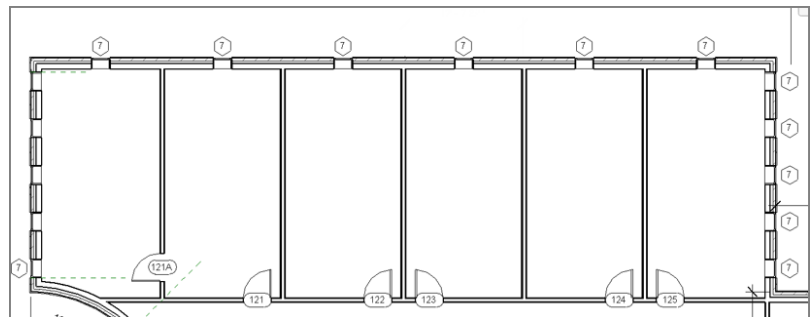

FIGURE 5.36: Adding doors and windows to the floor plan
12. Add doors and windows to the plan, as shown in Figure 5.36. They can be any type of door or window you choose—just try to keep them similar to the ones in Figure 5.36. Also, placement doesn't matter. You'll adjust this in the next procedure.